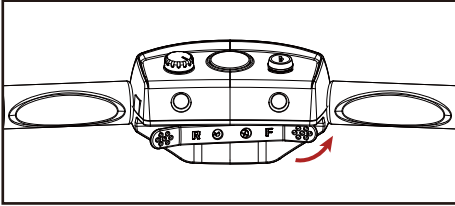

Figure 2: Forward Throttle Operation
- To move forward: Push the lever inward with your right thumb(see Figure 2).